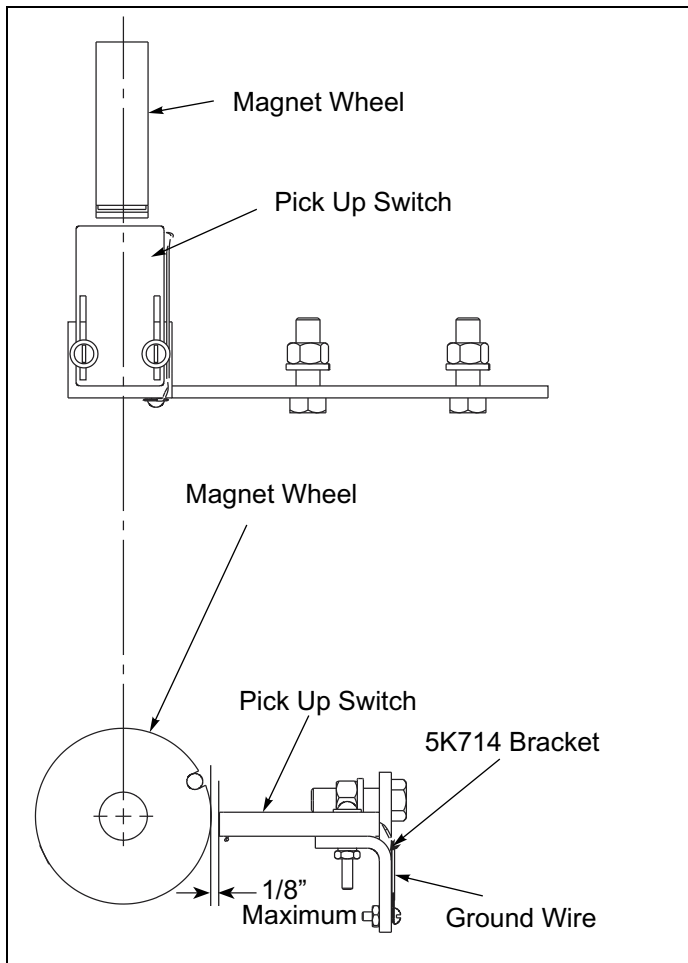

Figure 2-14: Electronic Acre Meter (3 of 3)
4. Adjust the pickup switch and bracket so the centerline of magnet wheel and pick up switch are horizontally and vertically aligned with maximum 1/8" between magnet wheel and pick up switch. Firmly tighten all screws. **See Figure 2-14.**
5. Attach the short pickup switch ground wire to the small hole in the 5K714 bracket with a #6-32 x 1/2" machine screw, removing paint under the wire connector to assure a good electrical ground connection. **See Figure 2-14.**